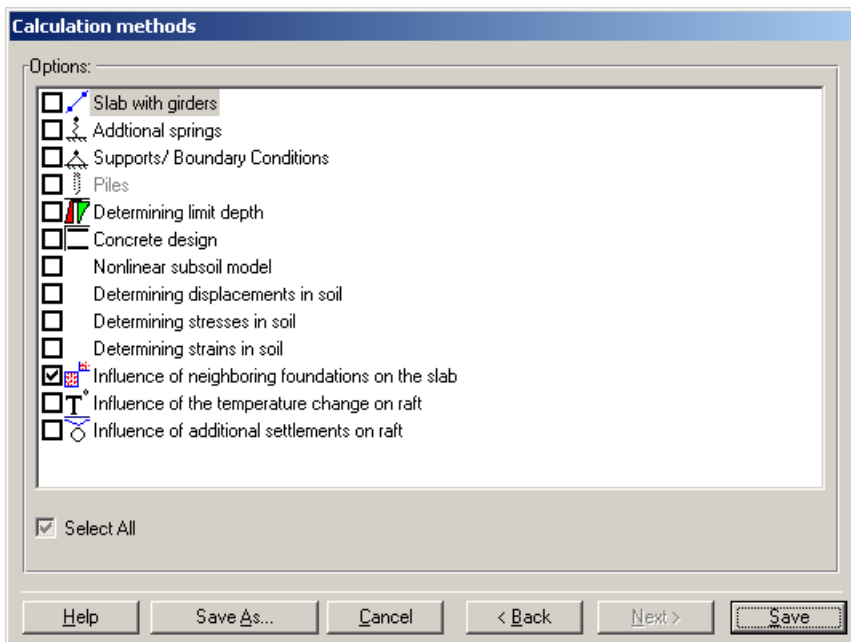

Figure 9-31 "Options" list
- The last form of the wizard assistant contains the "Option" list, Figure 9-31. In this list, check the option "Influence of neighboring foundations on the slab", then click the "Save" button